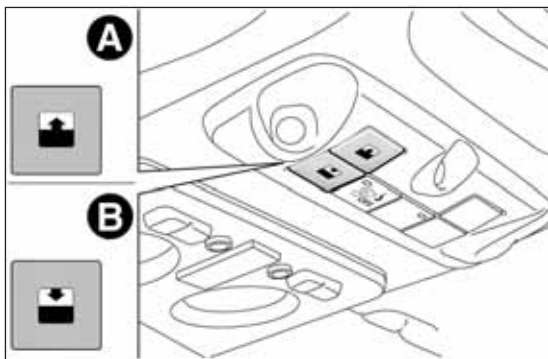

fig. 63
The sun roof can be operated only with the ignition key turned to MAR. The controls A and B fig. 63 on the trim next to the front courtesy light operate the sun roof opening/closing functions.
Press and hold down button A fig. 63. The front glass panel will move into the spoiler position. Press button A again and keep it pressed for more than half a second to automatically move the sun roof to an intermediate position ("Comfort" position).
With the roof in the fully open position, press button B fig. 63 and, if the button is operated for more than half a second, the front roof glass will automatically assume the intermediate position (comfort position).
- press button B fig. 63 until the roof is completely closed. Release the button;